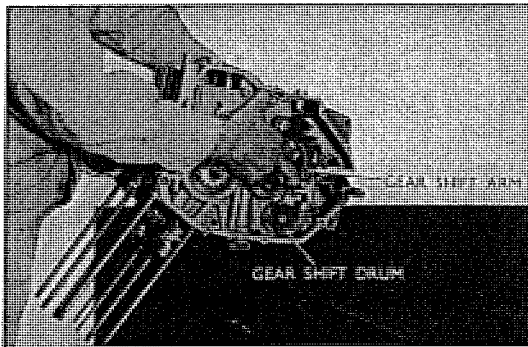

Fig. 3.81 Releasing key from shift drum
9. While the key on the gear shift arm is released from the shift drum, dismount the motor. (Refer to Fig. 3.81)